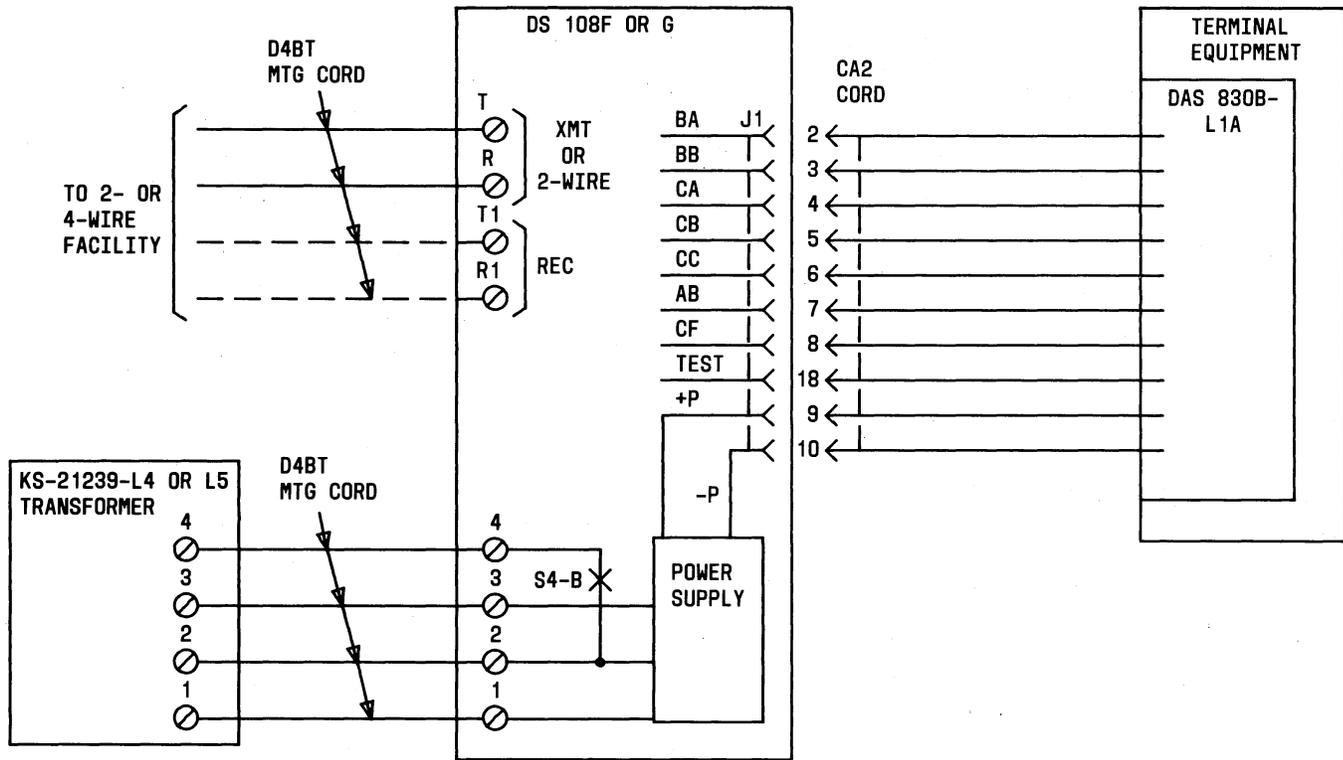

Fig. 18—DS 108F or G With DAS 830B-L1A Connection Diagram
- Fig. 18—DS 108F and G With DAS 830B-L1A Connection Diagram